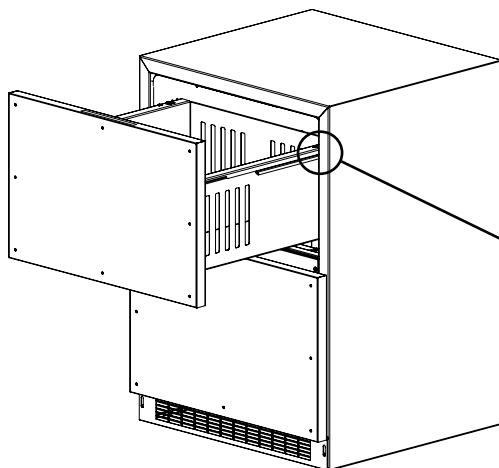
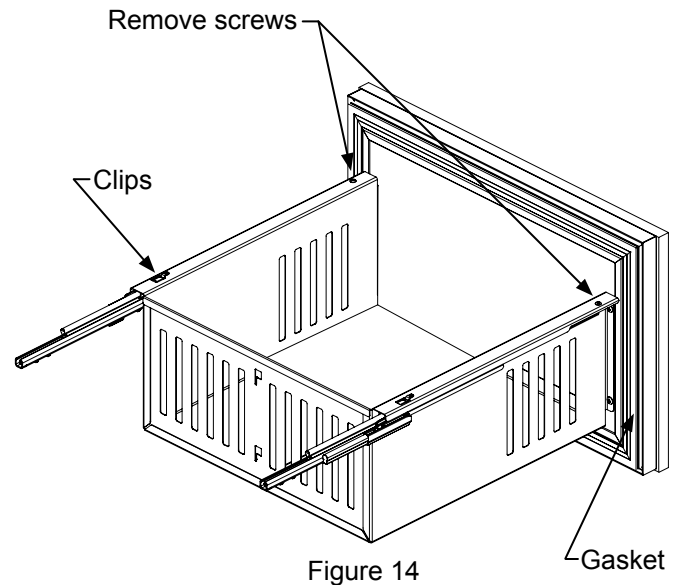
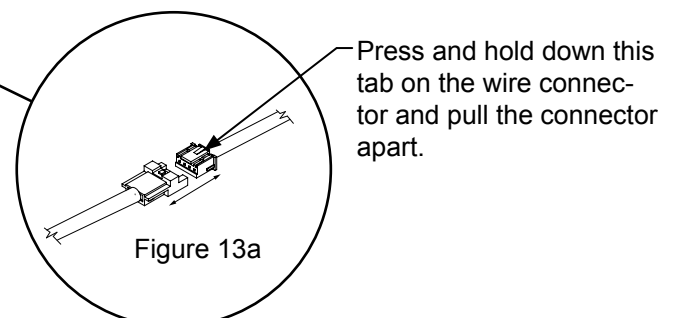

Figure 13
Figure 14
Figure 13a
1. Begin by pulling out the top drawer. (See Figure 13). Remove screws securing drawer to slides (See Figure 14). Pull drawer forward, lift up and out to clear clips in rear of drawer. Move drawer forward about 1" (2.5 cm) and set down on slides. At the right rear corner of the drawer disconnect the display wire harness (See Figure 13a). Remove the drawer from the unit by lifting up off of the slides. Repeat for bottom drawer but disregard the harness instructions as there is no wiring to the bottom drawer.
2. Remove the drawer divider from the top drawer and the gasket from the drawer front. (See Figure 14). Do this by pulling the gasket out of the channel that holds it to the drawer front. This will expose the clearance holes for mounting the overlay panel. (See Figure 18).